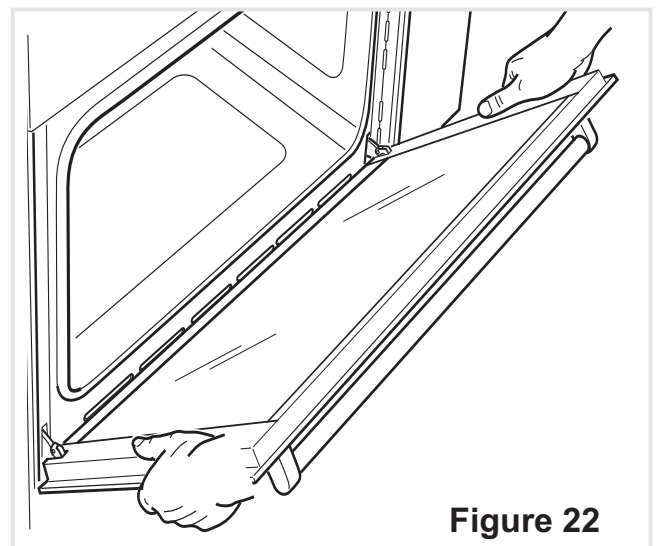

Figure 22
- Hold the door as shown in fig. 22.